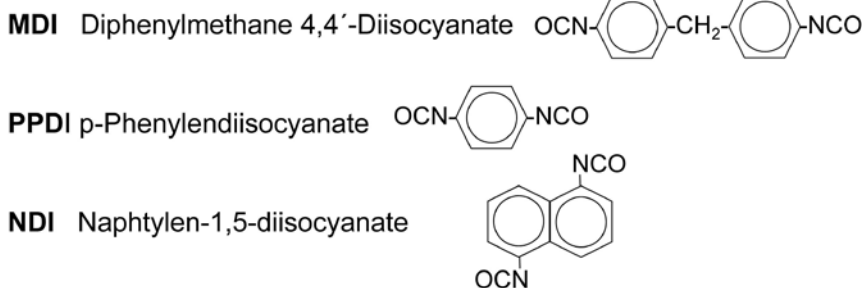

Figure 1—Comparison of isocyanates used in construction of thermoplastic polyurethane.
**Ingredients of TPU material.** Figures 1 and 2 show the basic raw materials for TPU synthesis as well as the diisocyanates used for the reference materials discussed in this paper. TPU consists of 3 basic ingredients: